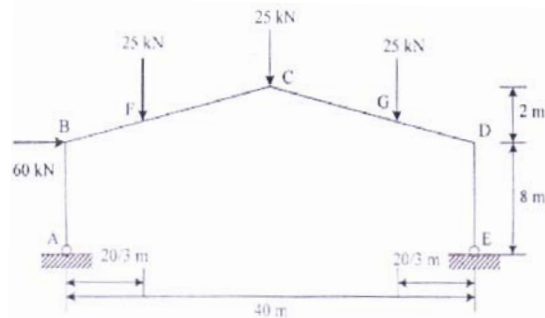

Fig. 4
- Q4)** Analysis the gable frames as shown in Fig. 4 by plastic method and determine the plastic moment m_p . [25]